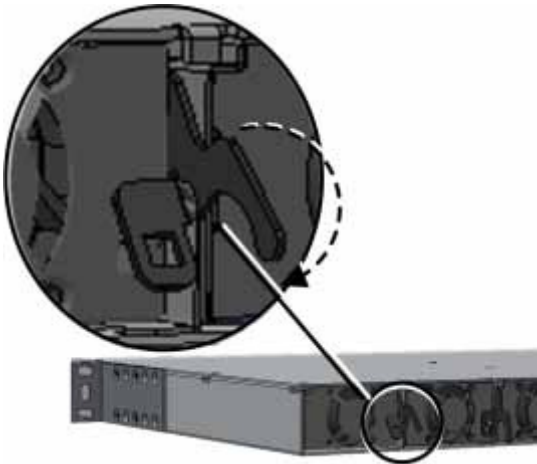

Figure 5-2. Securing PSM in Slot
3. Secure by pulling the lever downward until it “clicks” and the module is flush with chassis rear. See Figure 5-2